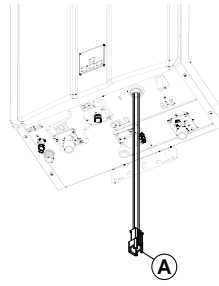
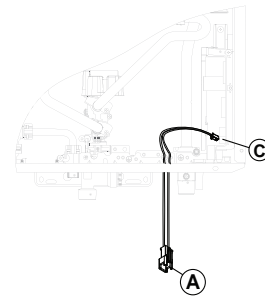

Fig. 1
Fig. 2
3. Pass sufficient cable through the hole in the casing (Fig. 1); connect the terminal end to the PCB © (Fig. 2);